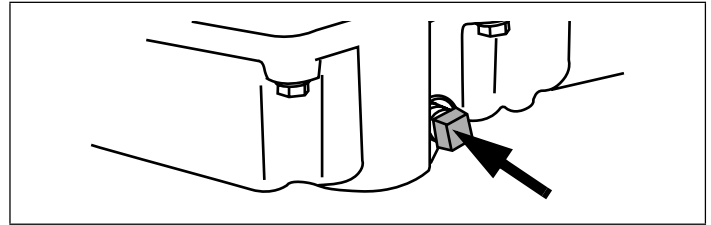

Figure 19. Oil Drain Plug Location
1. Be sure you find the correct drain plug location, if present. (See equipment manufacturer's instructions). See Figure 19.
4. Clean area around oil drain plug. See Figure 19.
6. Remove oil drain plug and drain oil into an approved container. See Figure 19.